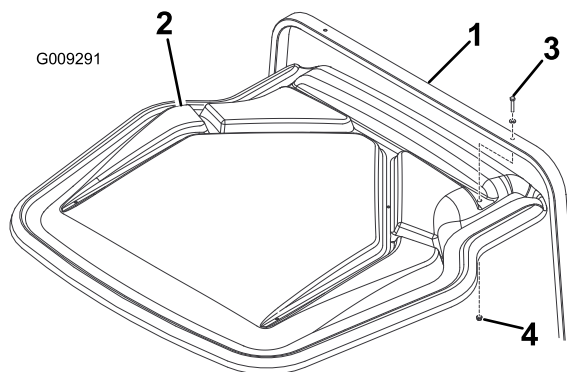

Figure 7
- A. If your machine does not have a ROPS, secure the canopy to the rear support tube using 2 screws (5/16 x 2 inches), 2 washers (5/16 inch), and 2 flange nuts (5/16 inch) as shown in Figure 7.